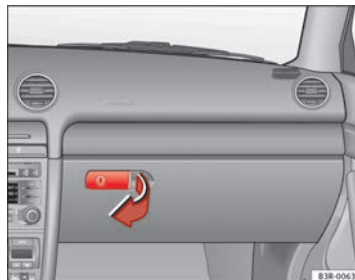

Fig. 127 Glove compartment
- Pull the handle on the lid in the direction indicated (arrow) ⇒ fig. 127 and open the lid.